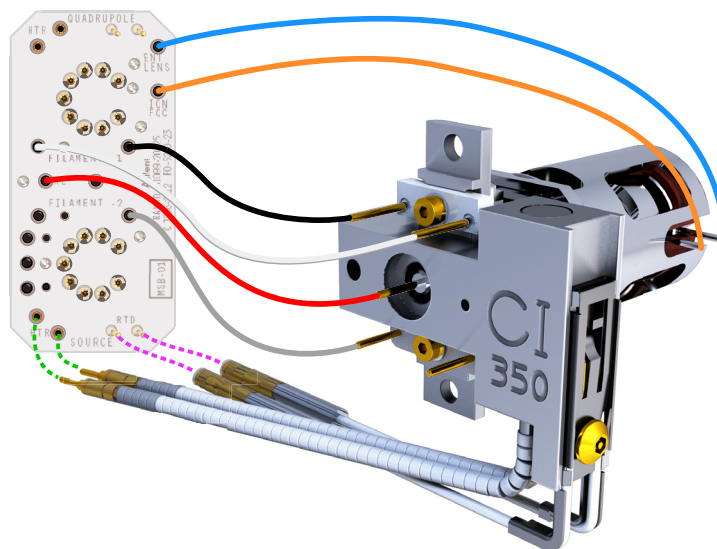

Figure 73. Wiring between the CSB and the source
- 1 Use tweezers or pliers to connect or disconnect the ceramic board wire leads (red, white, black, and gray) at the source connectors. (See Figure 73.)